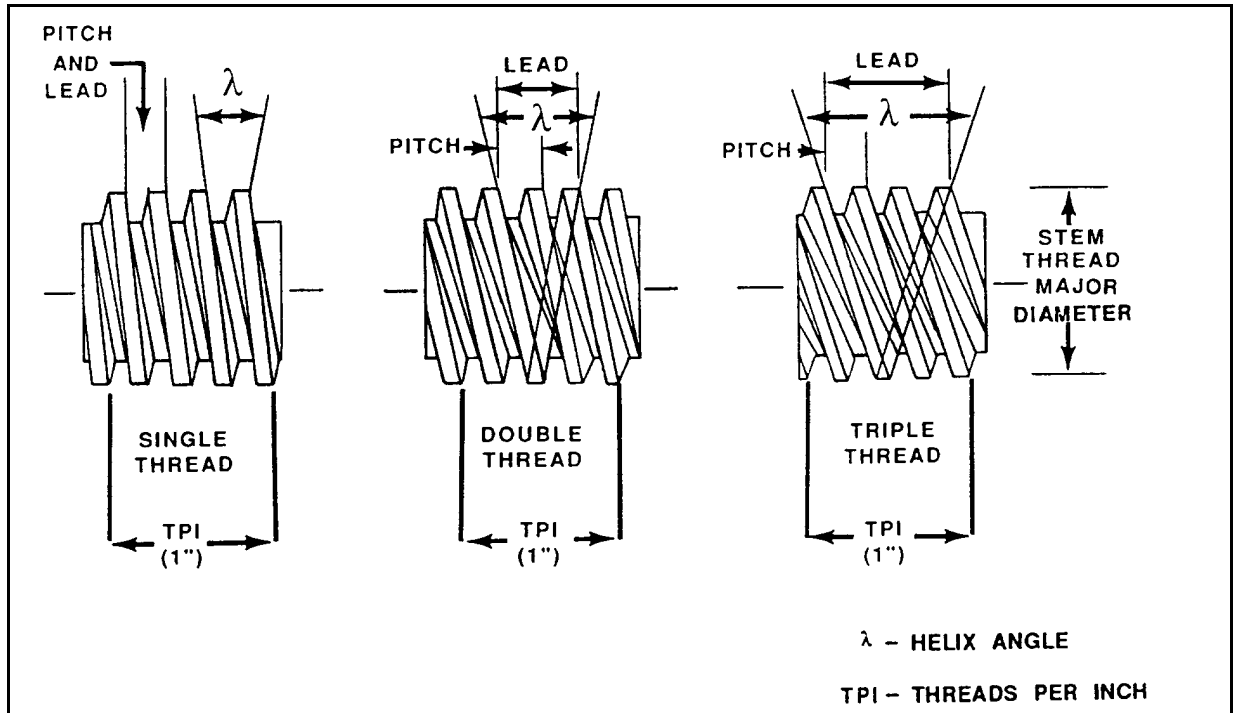

Figure 6-3 Valve System Thread Determination
27. If needed, record stem thread pitch, lead, and diameter (Refer to Figure 6-3)
24. If needed, record stem thread pitch, lead, and diameter. (Refer to Figure 6-3)